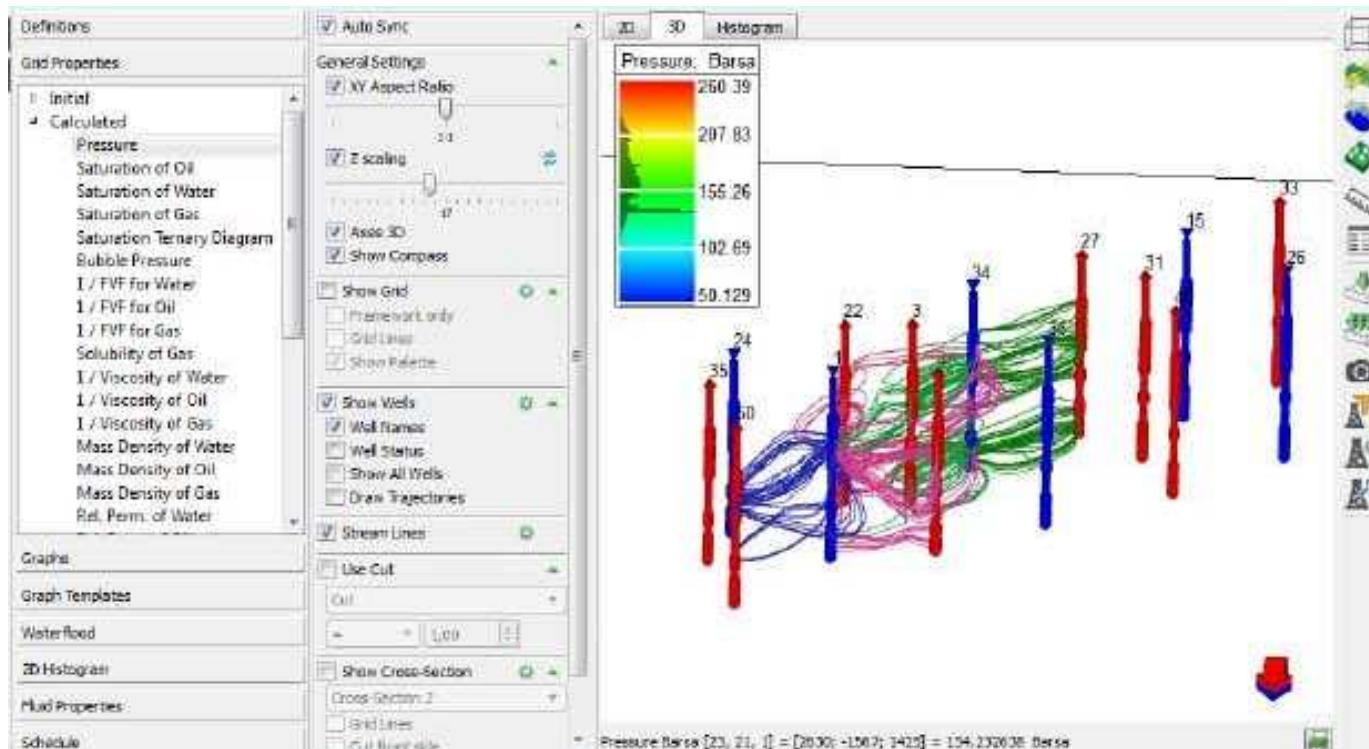

Figure 37. Streamlines for wells included in the Streamline Filter.
3. Go to 3D view or 2D view of the model. Uncheck **Show Mesh** and check **Stream Lines**. Streamlines will be shown only for the selected wells—figure 37. However, all the wells of the model will be visible (according to Well Filter 1).